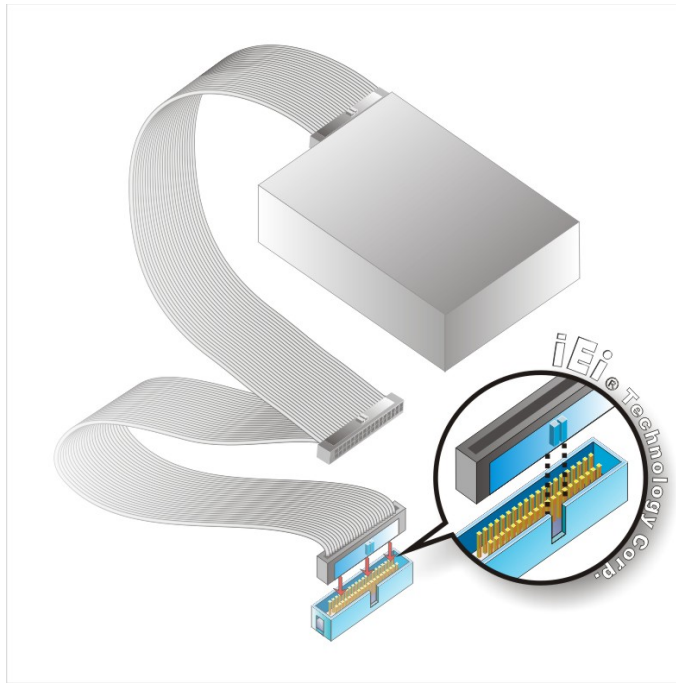

Figure 5-5: IDE Cable Connection
Step 2: Insert the connector. Connect the IDE cable connector to the onboard connector. See **Figure 5-5**. A key on the front of the cable connector ensures it can only be inserted in one direction.